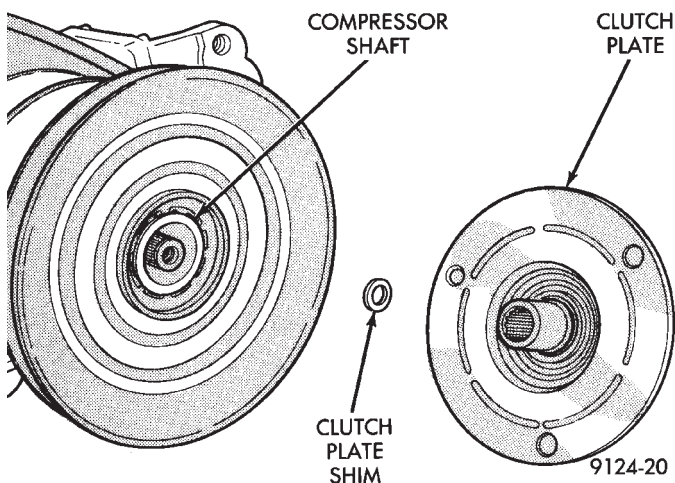

Fig. 22 Clutch Plate and Shim
(3) Tap the clutch plate with a plastic mallet to release it from the splines on the compressor shaft. Remove clutch plate and shim(s) from the compressor shaft (Fig. 22).